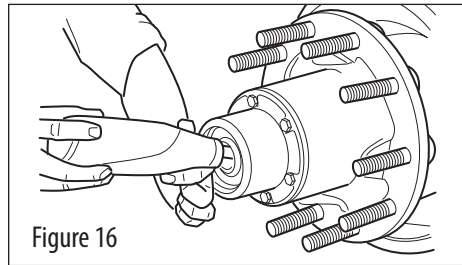

Figure 16
1. For steer hubs, fill the hub through the hubcap with oil. It may be necessary to add lubricant more than once to adequately fill the hub (see Figure 16).